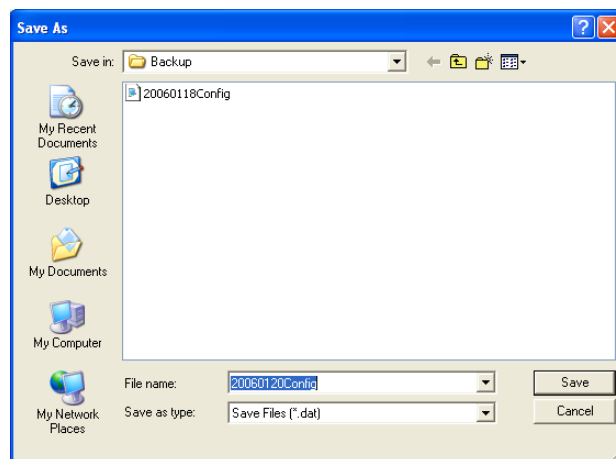

figure 8.22: "Save configuration file as" window
- 1 From the main menu, click the Save configuration file button. The following window will appear (see figure 8.22).
The default filename is based on the date set in the computer's clock (see figure 8.22).